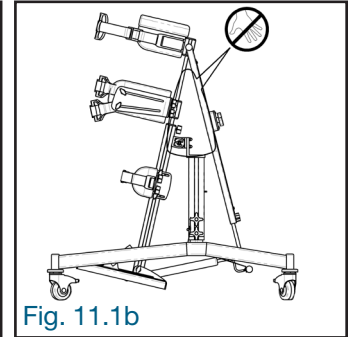

Fig. 11.1b
- When adjusting the height of the product by loosening the two locking knobs (A) at the back of the frame and the two locking knobs (B) at the bottom of the stabilizer platform, DO NOT place fingers and hands between the hip block (C) and the stabilizer (D) as well as inside the triangular part (Fig. 11.1b).